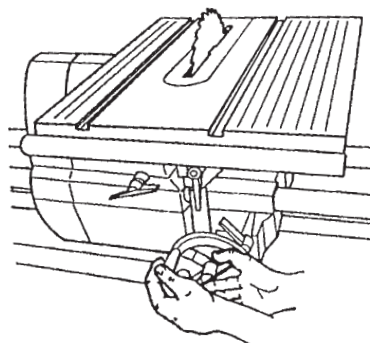

Figure C-29
22. Lower the worktable (but not all the way down) so the saw blade comes through the slot. Lock the table height, as seen in Figure C-29.